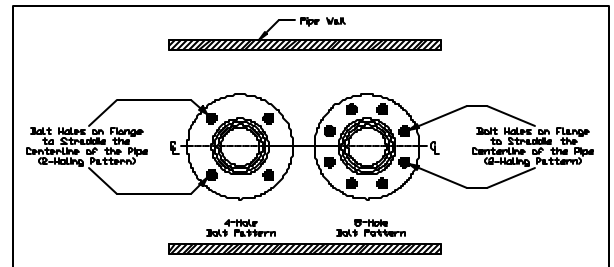

Figure 4. Flange Orientation
- Note the flange orientation per Figure 4. The bolt holes on the flange should straddle the centerline of the pipe (2-holing pattern). For V510 models, slide the opposite end weld coupling over the tip of the sensor and tack weld into position.